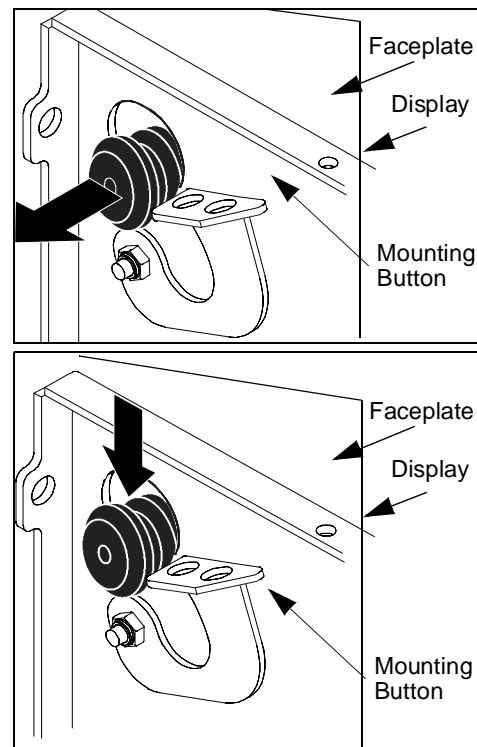

Figure 7
2. While supporting each side of the display, align the four mounting buttons on the interface bracket with the four teardrop slots in mount faceplate. Lower bracket firmly into slots. (See Figure 7)